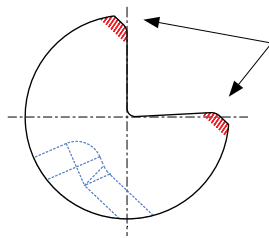

Figure 5
8. **Working with painted or sensitive surfaces** – If coining or imprint marks occur, polishing the material contact lobes (Fig. 5) will greatly reduce to eliminate any imperfections. See note #5 above for additional troubleshooting.